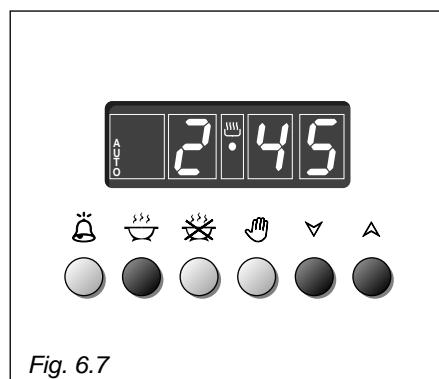

Fig. 6.7
1. Set the length of time you need to cook the food by pushing the  button and the  button to advance, or  to go backwards (Fig. 6.7).